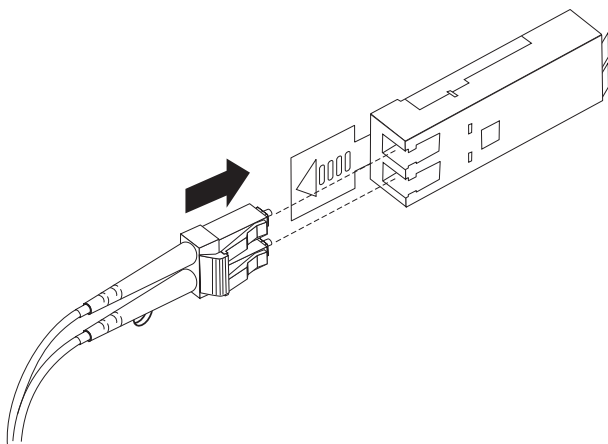

Figure 34. Inserting an LC-LC Fibre Channel cable into an SFP module
4. Carefully insert this end of the LC-LC cable into an SFP module that is installed in the DCS3700. The cable connector is keyed to ensure it is inserted into the SFP module correctly. Holding the connector, push in the cable until it clicks into place, as shown in Figure 34.